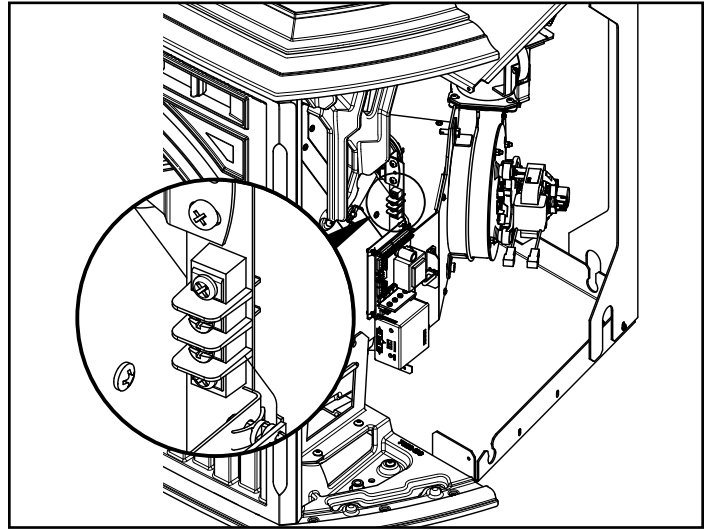

Figure 22.1
2. Connect the thermostat wire to the center two screws of the terminal block on the stove. (Figure 22.1)